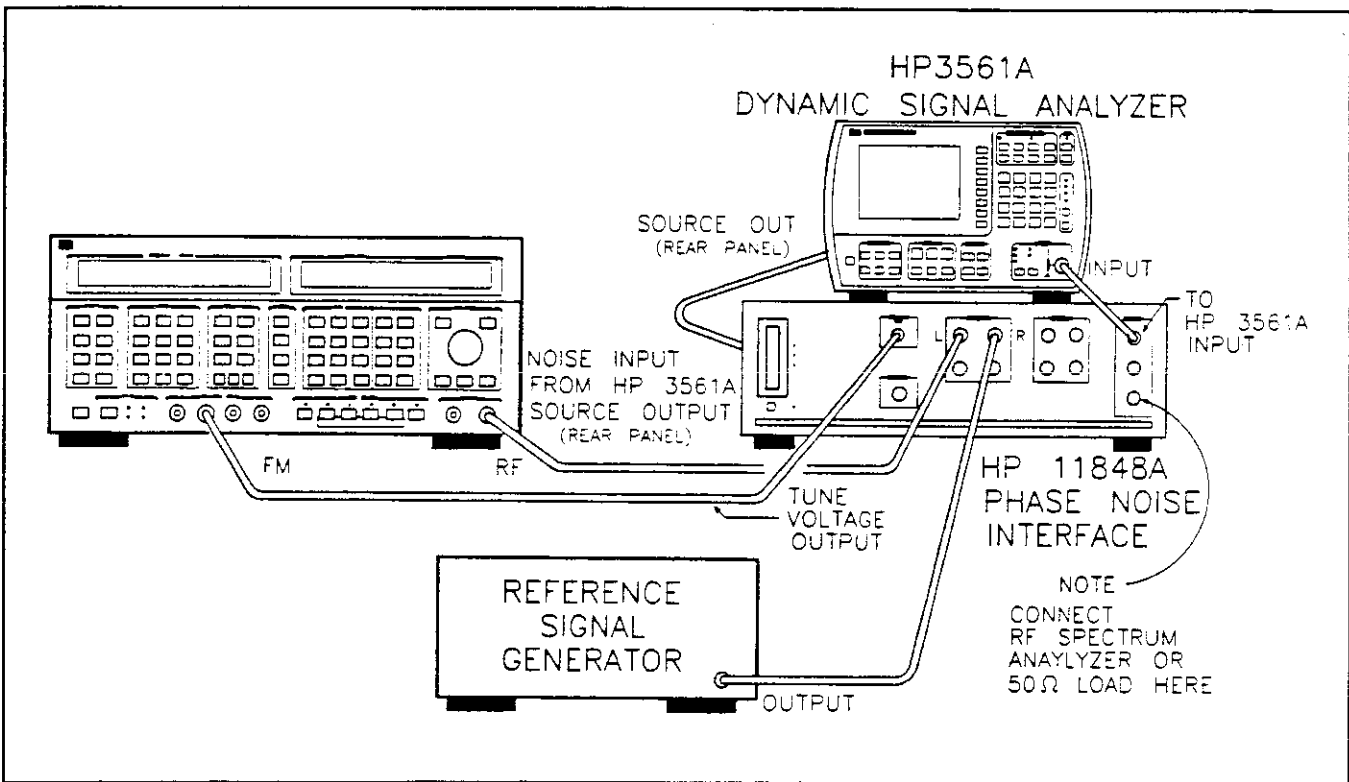

Figure 8-5. SSB Phase Noise Test Setup
1. Connect the equipment as shown in figure 8-5.